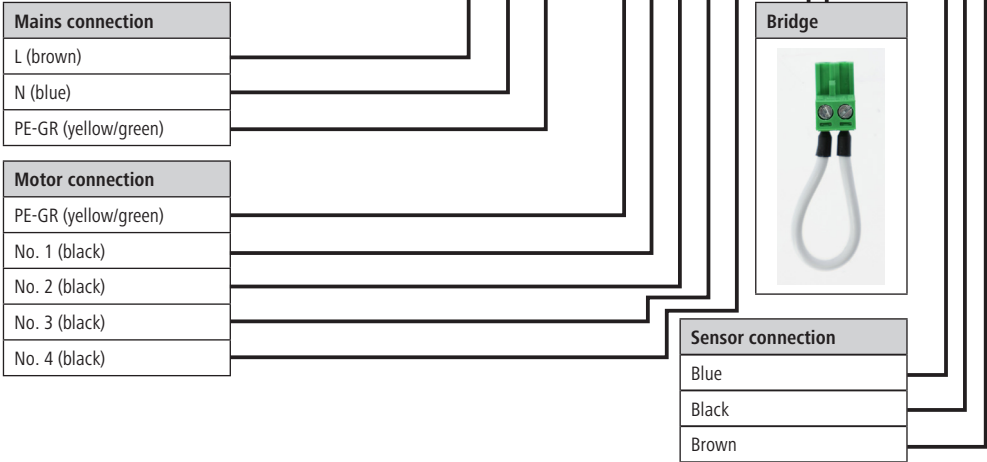

Figure 9: Circuit board in control unit housing (capacitor behind the circuit board)
Rollers (Fig. 14; item 2.10), Rubber buffer (Fig. 14; item 2.12; + Fig. 13; item 1.8), Plastic guides bottom (Fig. 14; item 2.17) and top (Fig. 9; item 2). These parts must be inspected regularly and replaced if they are wearing too much. Lubricate the plastic guides at the marked places. These parts must be inspected regularly and replaced if they are wearing too much.